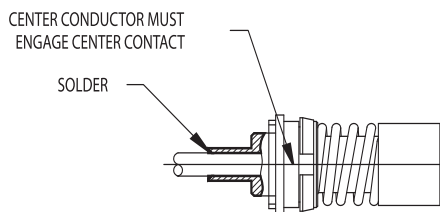

FIGURE 3
2. INSERT CABLE INTO BODY UNTIL IT BUTTS UP AGAINST COUNTERBORE. CENTER CONDUCTOR MUST ENGAGE TINES IN CENTER CONTACT. SOLDER OUTER CONDUCTOR OF CABLE TO BODY. CLEAN. (SEE FIG. 3)